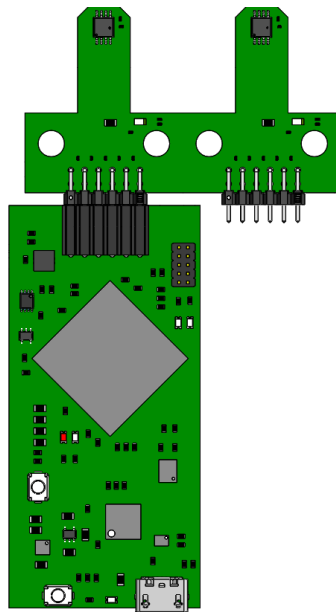

Figure 2-1. EVM on TI-SCB Controller
To use the EVM with the included TI-SCB Controller, connect the EVM as shown in Figure 2-1.
2. Attach the EVM to the Sensor Control Board (TI-SCB) (see Figure 2-1).